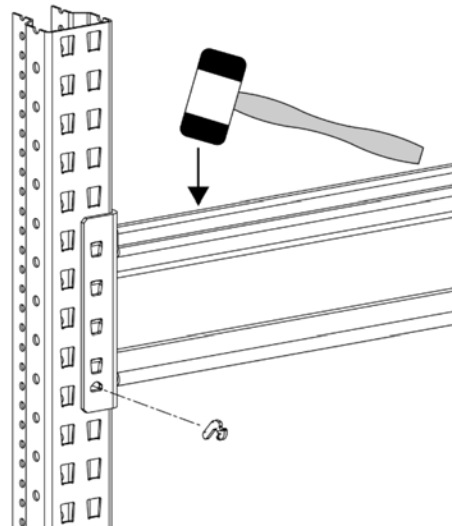

Fig. 8
5. Fasten the beam to both uprights using a locking pin and attach it following the direction of the arrows using a rubber mallet. (Fig. 8)